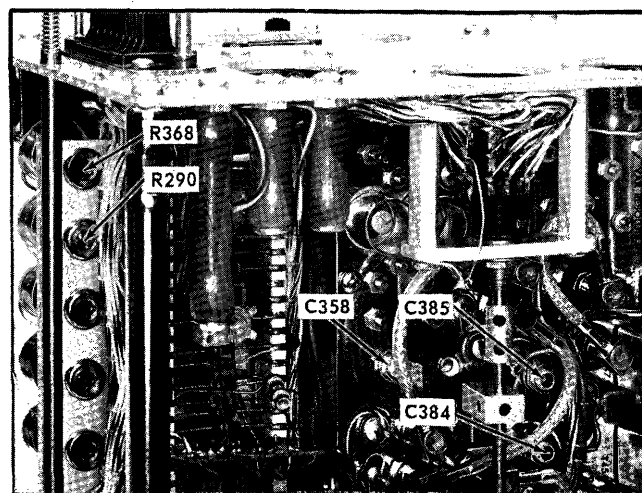

Fig. 6-4. Location of Dispersion adjustments (Steps 2 and 3).
e. Adjust C358 (see Fig. 6-4) for 1 marker/centimeter over the middle eight centimeters of the display. If the dispersion seems non-linear, readjust R290 (IF CF Range) while adjusting C358 to obtain the best dispersion and linearity. Monitor Pin P with a test oscilloscope to keep the voltage at this pin between -0.8 and -1.2 volts.
g. Adjust R368 (see Fig. 6-4) for 1 marker/2 centimeters.
h. If the display is not centered, adjust C384 and C385 (see Fig. 6-4) so that it is centered. If necessary, readjust R368 for the correct dispersion again.